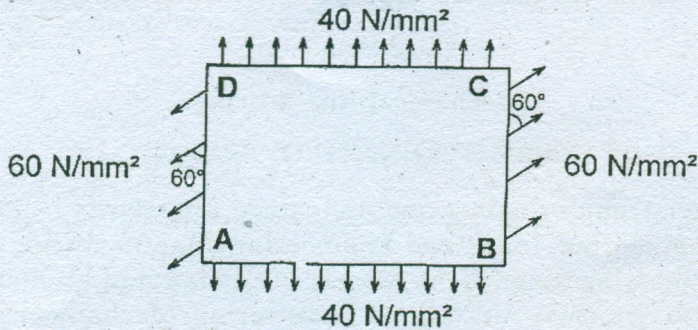

Fig. Q. 11(b)(i)
- (b) (i) A point in a strained material is subjected to the stress as shown in fig. Q.11(b)(i). Locate the principle plane and find the principle stresses. (7)